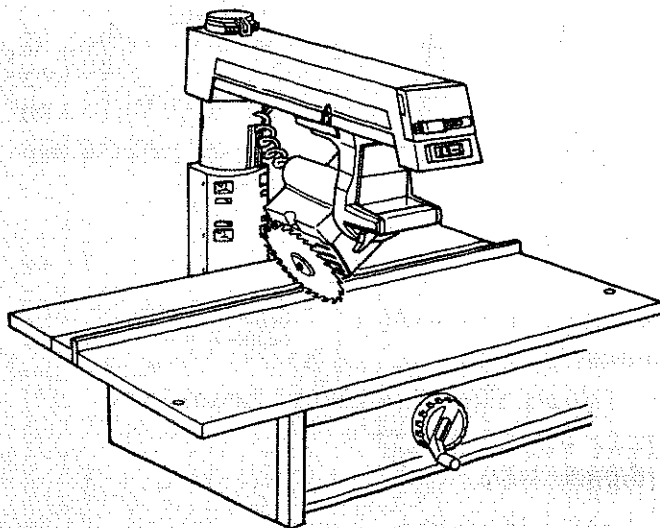

Fig. 110
13. Unlock the *bevel lock* and move the *motor* to the 45° bevel position. (Figure 110)